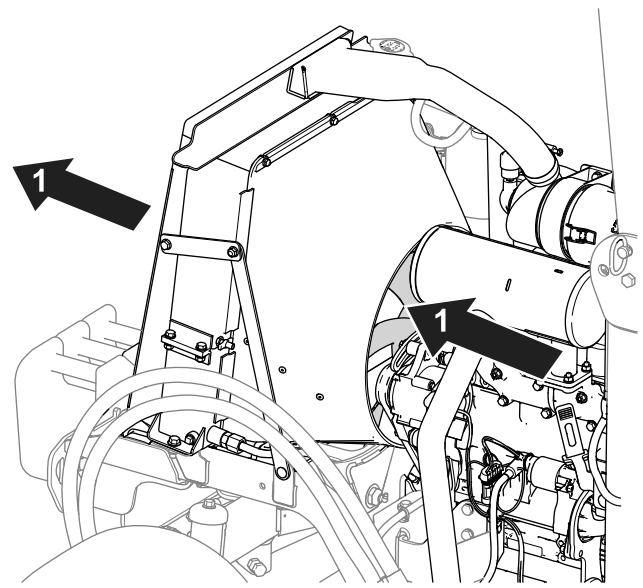

Figure 72
- Use compressed air to clean the radiator fins. Direct the air out from the machine (Figure 72).